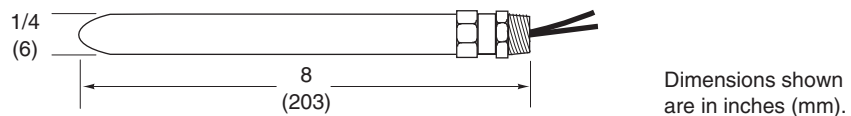

Figure-8 TS-8204 Mounting Dimensions.
1. Determine the sensor mounting location on the duct. The sensing element is located within 1" of the end of the sensing probe and it should be located in the air stream typical of the temperature requiring sensing (see Figure-8).